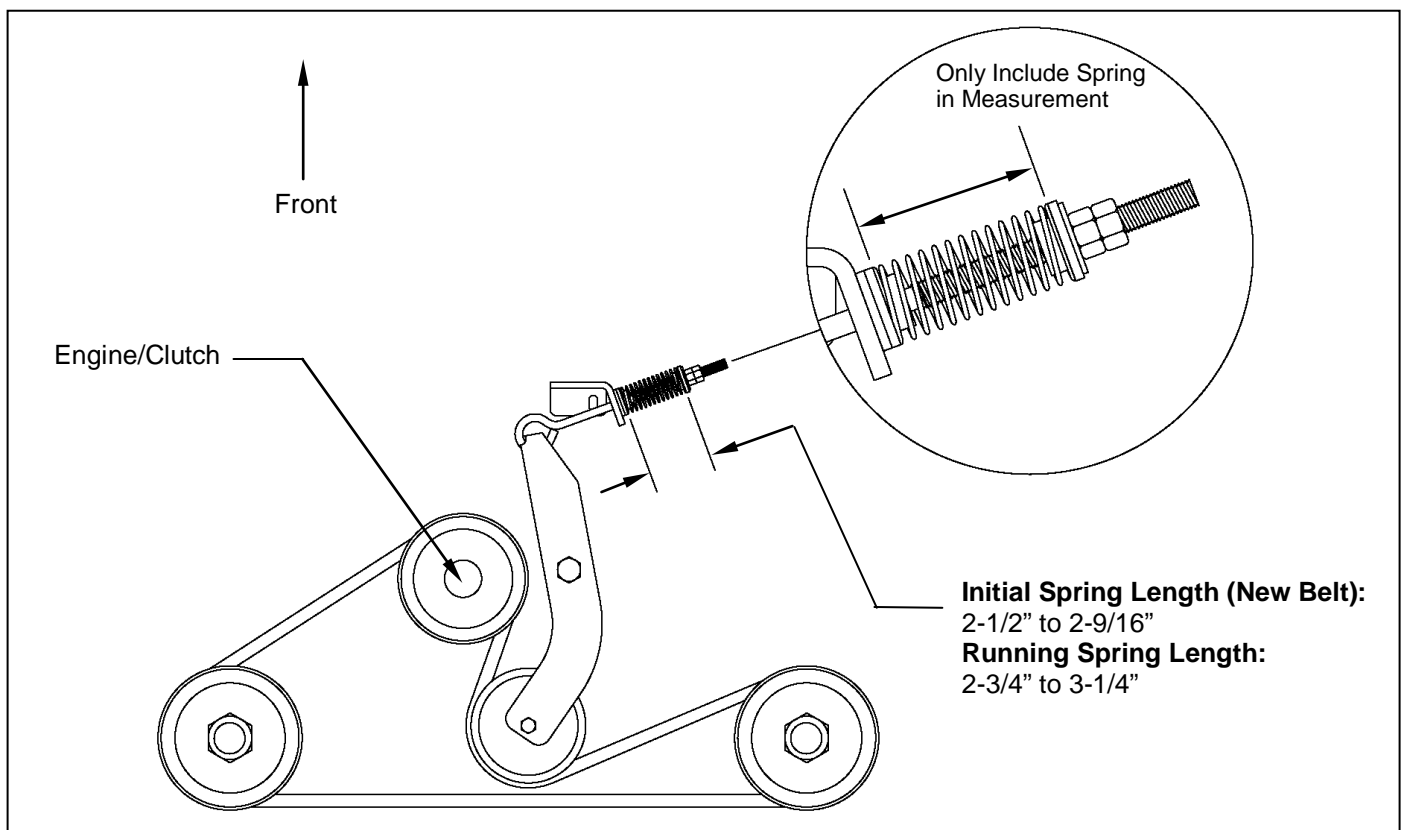

Figure 10: Belt Pattern, Spring Adjustment, and Brake Adjustment
F. DRIVE BELT REMOVAL AND TENSION – Refer to Figure 10
Install the new belt and then adjust the tension as follows: **See Figure 10.**